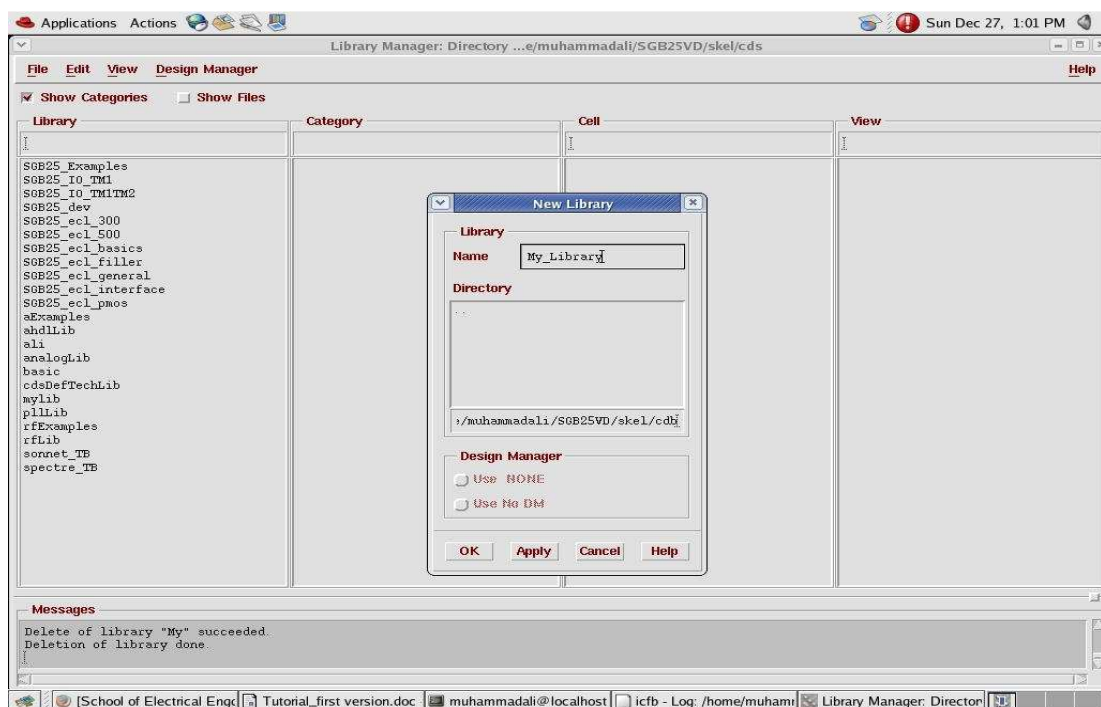

Fig.2: Creating a new library
- b) Select **File → New → Library**. A new window just like the one shown in the Fig.2 will appear. Enter a name for your library, say **My Library**.